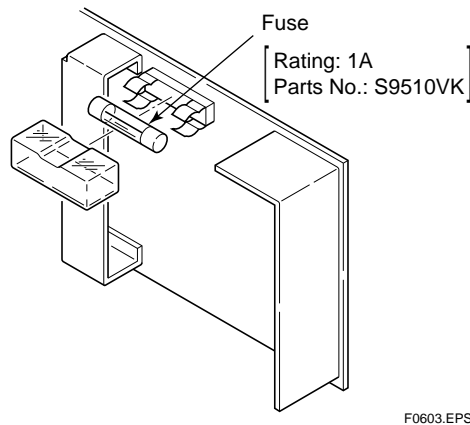

Figure 6-3 Replacement of Fuse
- (1) To remove the fuse holder cap, then pull the fuse out in the direction shown in Figure 6-3.
- (2) When installing a new fuse, use a fuse with the correct rating. Fasten the cap securely.